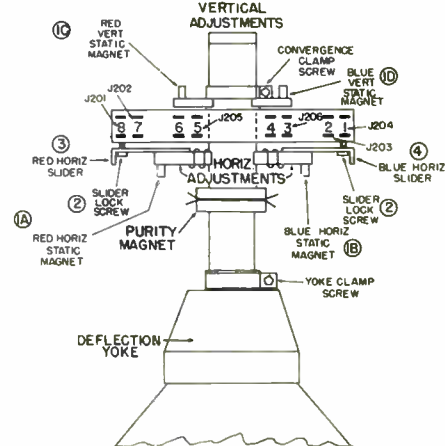

Fig. 3 Location of various purity and convergence adjustments.
2. Loosen the screws on the horizontal convergence sliders and move each slider to place the core end $\frac{1}{8}$ " from the picture tube neck (2, 3 and 4 in Fig. 3).
7. Using either a dot pattern or a crosshatch pattern, adjust the static convergence magnets (1 A, B, C and D in Fig. 3 and Fig. 5) to produce center convergence.